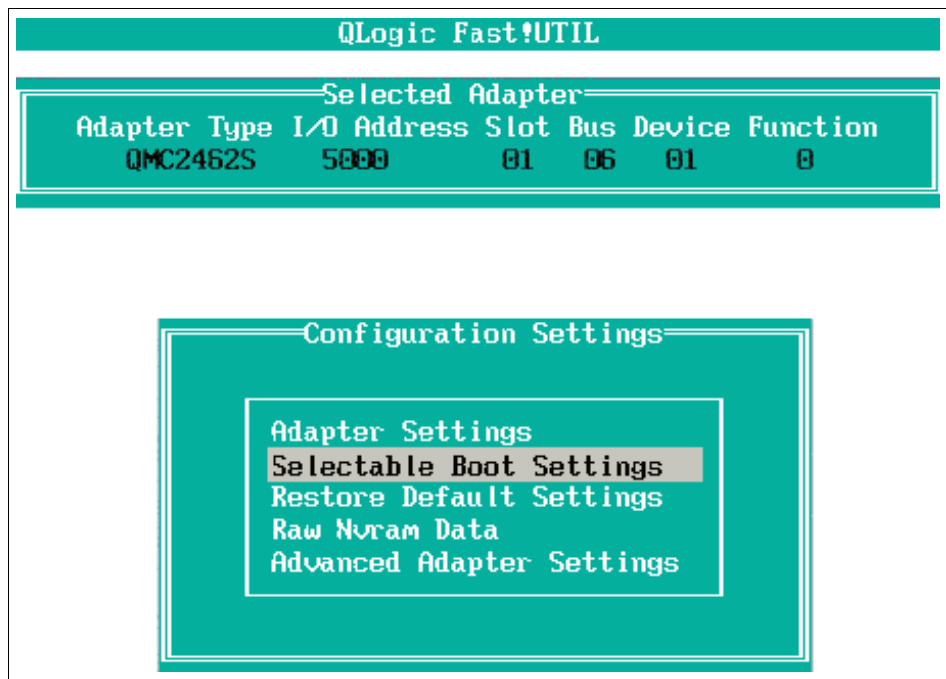

Figure 8-8 Configuration Settings window
5. Ensure that the Host Adapter BIOS is Enabled, the Hard Loop ID is set to 125, and the Data Rate is set to 2 (auto detect). Press Enter to change settings and Esc to exit. Next, you will see a window similar to Figure 8-8.